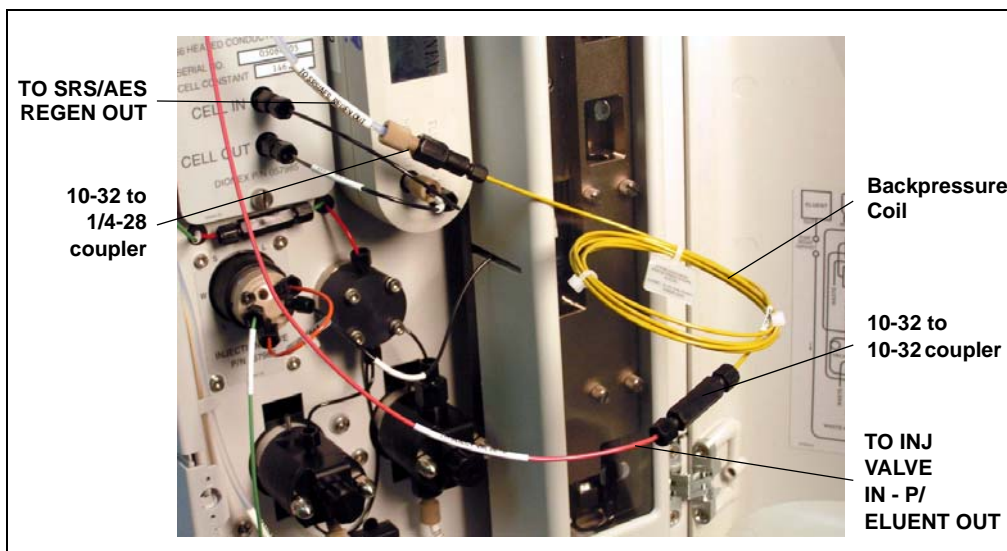

Figure 5-58. Backpressure Coil Connections for Conditioning the EPM with Carbonate/Bicarbonate Eluent
6. Connect the **TO SRS/AES REGEN OUT** line to the 10-32 to 1/4-28 coupler (see Figure 5-58).
NOTE The backpressure coil connection in Figure 5-58 is temporary; it is required only during the conditioning procedure described in the next section.